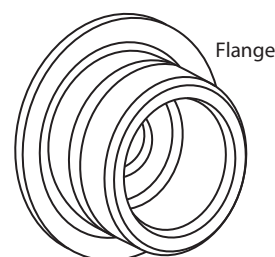

Figure 1A
4. Lightly mark the wall where the notch is on the flange, which will be on the outside and lightly trace a circle around the flange base for alignment in a later step (see Figure 1A).